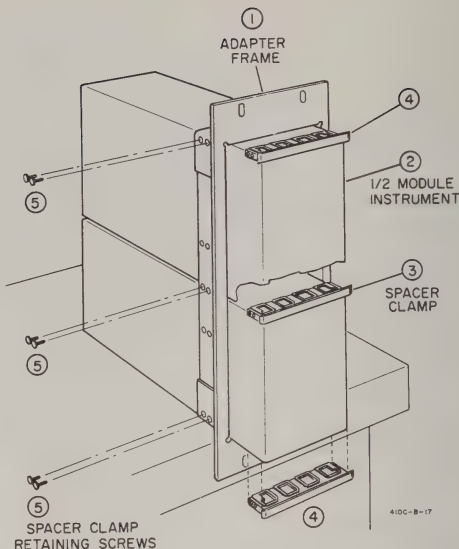

Figure 2-4. Two Half Modules in Rack Adapter
a. Place the adapter frame on edge of bench as shown in step 1, Figure 2-4.
b. Stack the submodular units in the frame as shown in step 2, Figure 2-4. Place the spacer clamps between instruments as shown in step 3, Figure 2-4.
c. Place spacer clamps on the two end instruments (see step 4, Figure 2-4) and push the combination into the frame.